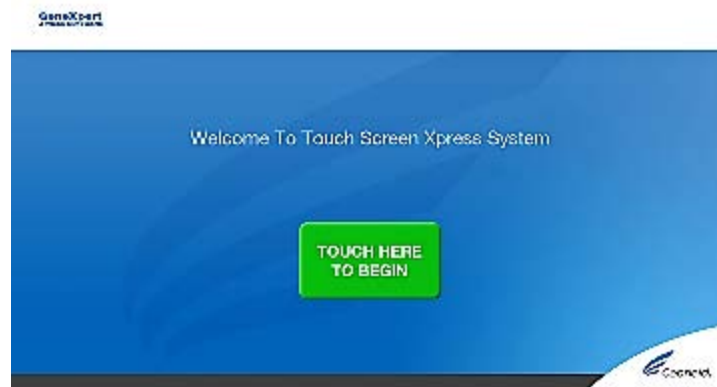

Figure 6. Welcome Screen
1. On the Welcome screen, touch the **TOUCH HERE TO BEGIN** button (see Figure 6).